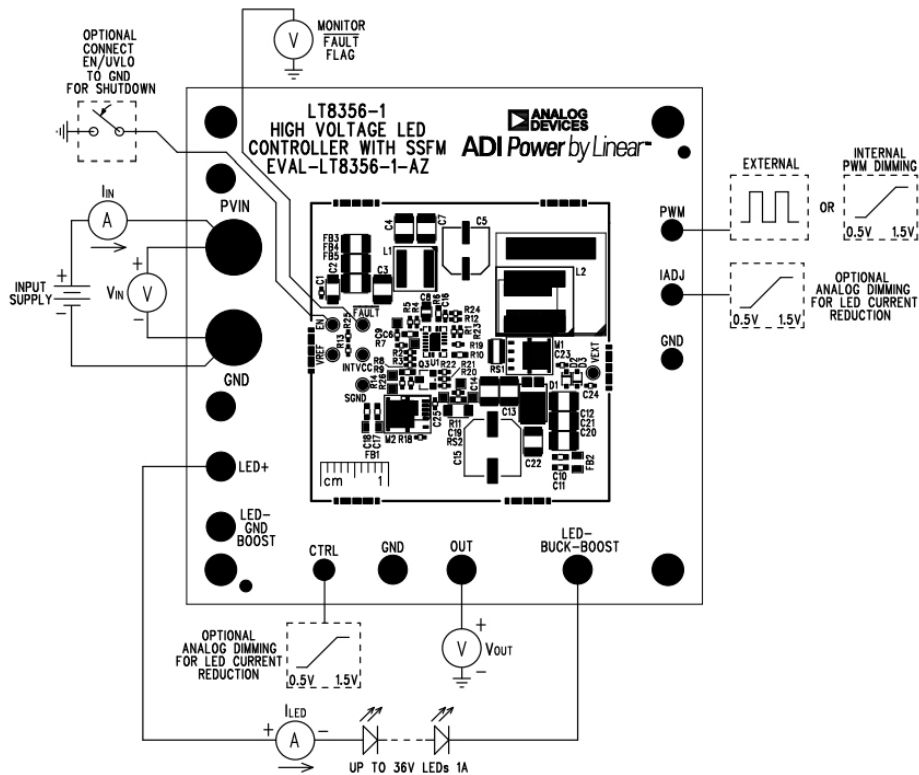

Figure 2. Setup Drawing for EVAL-LT8356-1-AZ as Buck-Boost Mode LED Driver
1. With power off, connect a string of LEDs that will run with forward voltage less than or equal to 36V (at 1A) to the LED+ and LED- (buck-boost) turrets on the PCB as shown in Figure 2.